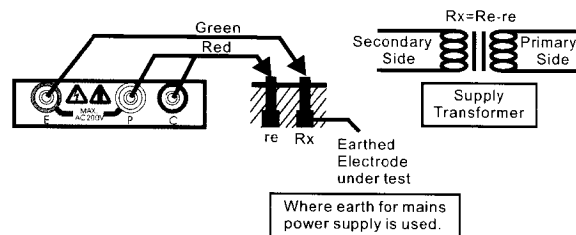

Fig.2
- (1) This method is recommended where an earth resistance higher than 10Ω is measured or where it is not possible to drive auxiliary earth spikes. An approximate value of earth resistance can be obtained by the two wire system where is shown in fig.2.
- (2) Rotary to function switch to "EARTH VOLTAGE" position and press to test. Make certain that earth voltage is less than 10V.
- (3) First rotary the function switch to " 200Ω " position and press to test, read earth resistance. If the display shows "1"(MSD), switch to " 2000Ω " position and read earth resistance.
- (4) The reading obtained (R_x) is an approximate earth resistance value. There is no need for external shorting as P and C terminals are shorted by using the test leads specified for the simplified Measurement.